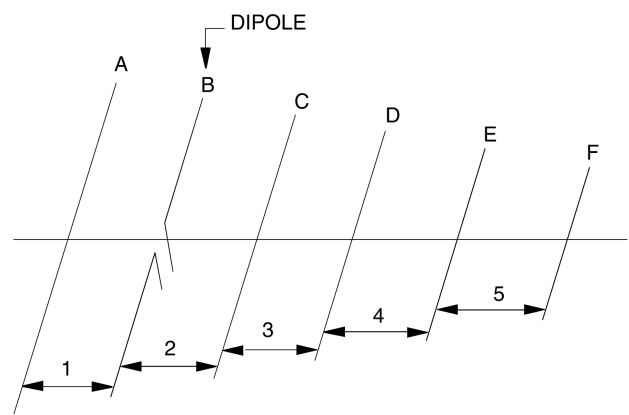

Figure 13. Set-up of the Yagi-Uda antenna
- ☐ 12. To improve the efficiency of your three-element Yagi antenna, refer to Figure 13 and to the following values to adjust the distance between the elements.
- 14. Using the following values and referring to Figure 13, set up a four-element Yagi-Uda antenna.
- ☐ 15. Refer to Figure 13 and use the following values to set up a five-element Yagi antenna.
- ☐ 16. Refer to Figure 13 and use the following values to set up a six-element Yagi antenna.